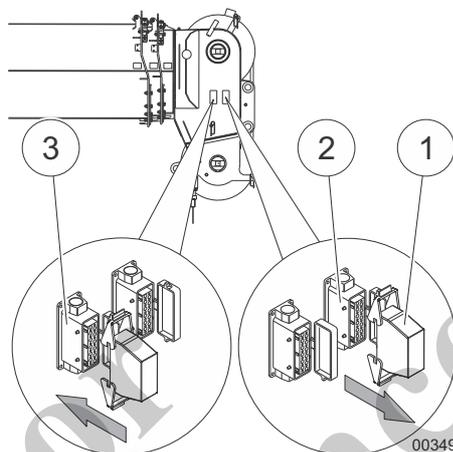

Fig. 192 Inserting the bypass plug on the telescopic boom
- 11 Remove the bypass plug (1) in Fig. 192 from the right bush (2) in Fig. 192 and plug it into the left bush (3) in Fig. 192.